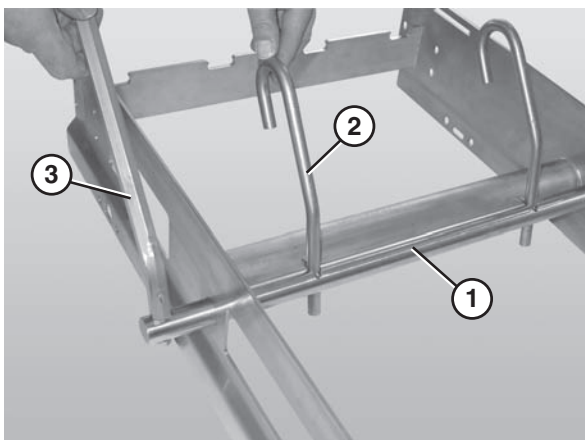

Figure 12
1. Slide the belt lift pivot bar (Figure 12, item 1) through the designated holes in the frame. The pins on the belt lift pivot bar should be located inside the frame side rails.
2. Attach the lifter bars (Figure 12, item 2) to the belt lift pivot bar (Figure 12, item 1). Make sure the hooked ends of the lifter bars are facing down when resting against the frame.
3. Attach the lifter handle (Figure 12, item 3) to the belt lift pivot rod.